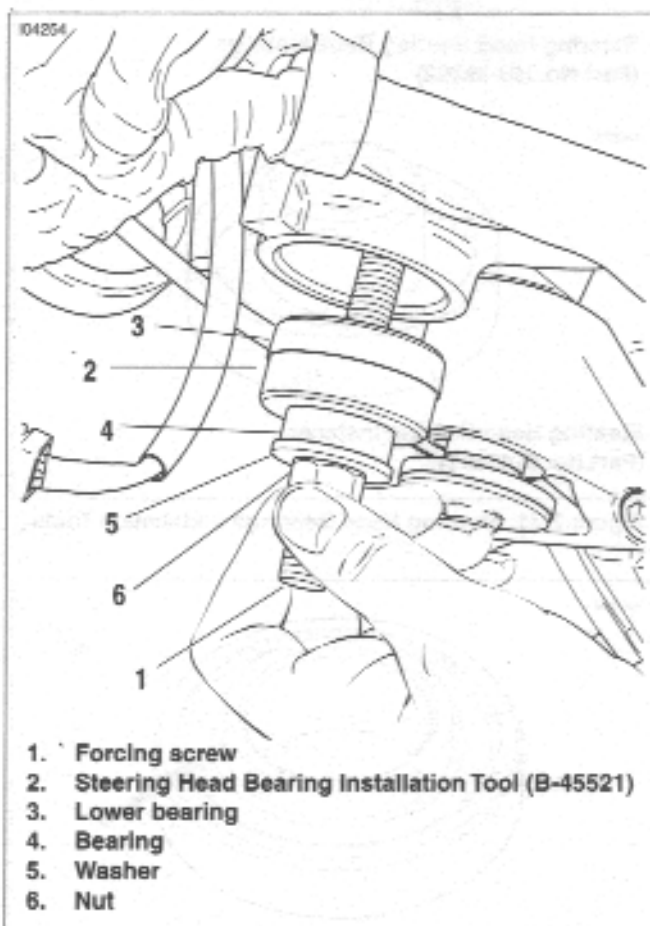

Figure 2-73. Lower Bearing
2. See Figure 2-73. Sparingly apply Extreme Pressure Lubricant (J-23444-A) to the threads of the forcing screw (1) from the Steering Head Bearing Race Installer (HD-39302), to prolong service life and ensure smooth operation. Insert the forcing screw (1) through the Steering Head Bearing Installation Tool (B-45521) (2).